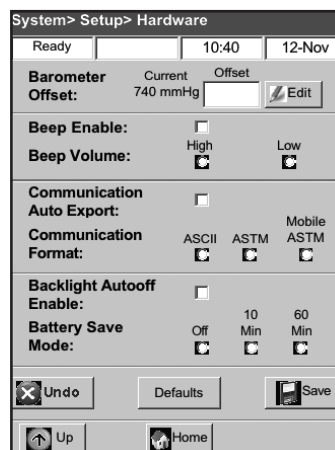

Figure H-24: System > Setup > Hardware screen
4. On the Hardware screen, adjust the hardware options as desired (Figure H-24).